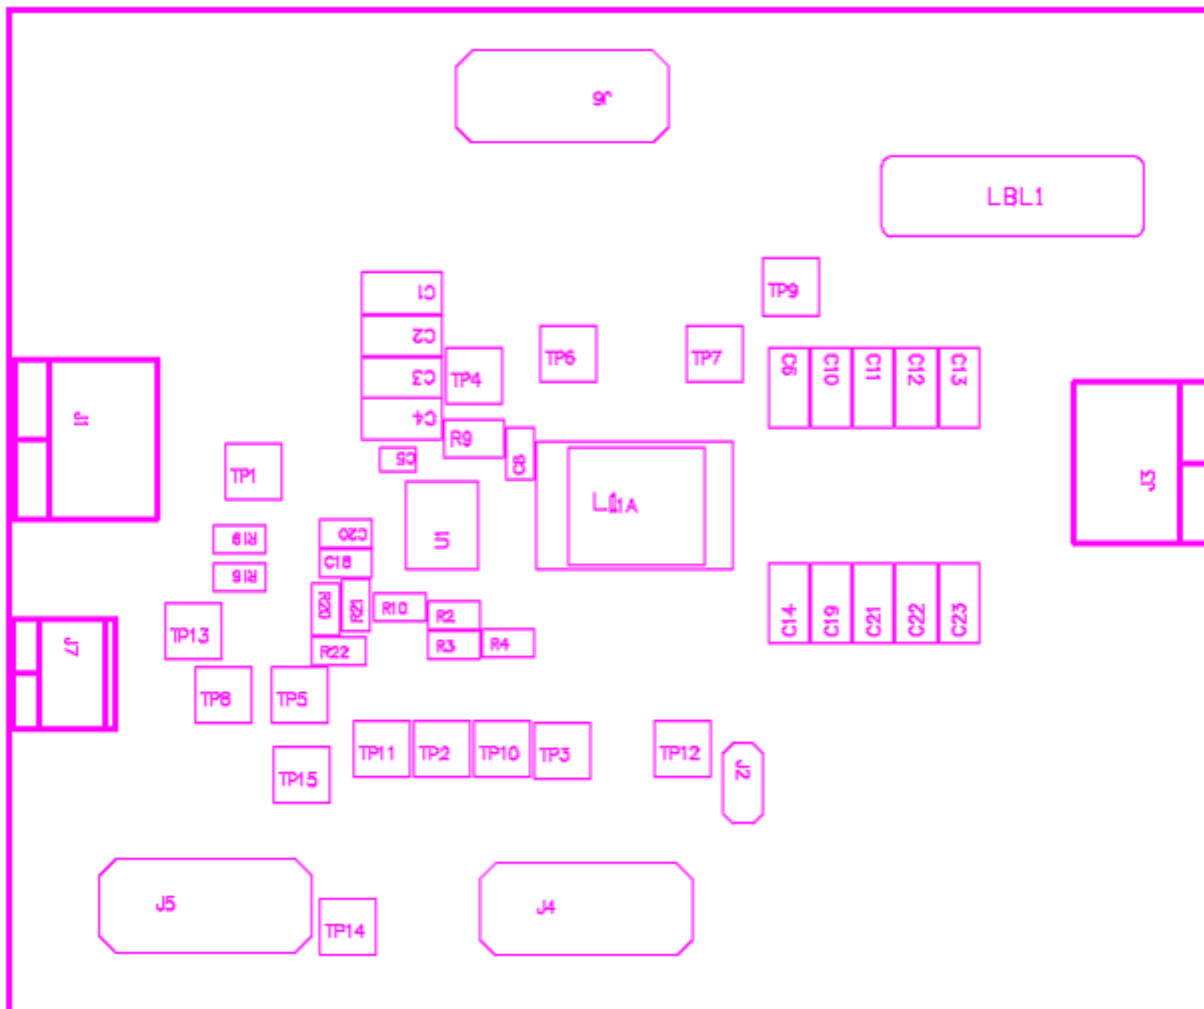

Figure 3. TPS53513EVM-587 Top Layer for Test Set Up
Voltage Source: The input voltage source V_{IN} must be a 0-14V variable DC source capable of supplying 10 A_{dc}. Connect V_{IN} to J1 as shown in Figure 3.
1. Prior to connecting the DC input source (V_{IN}), it is advisable to limit the source current from V_{IN} to 10 A maximum. Make sure V_{IN} is initially set to 0 V and connected as shown in Figure 3.
1. Set up EVM as described in the Test Setup section and Figure 3.